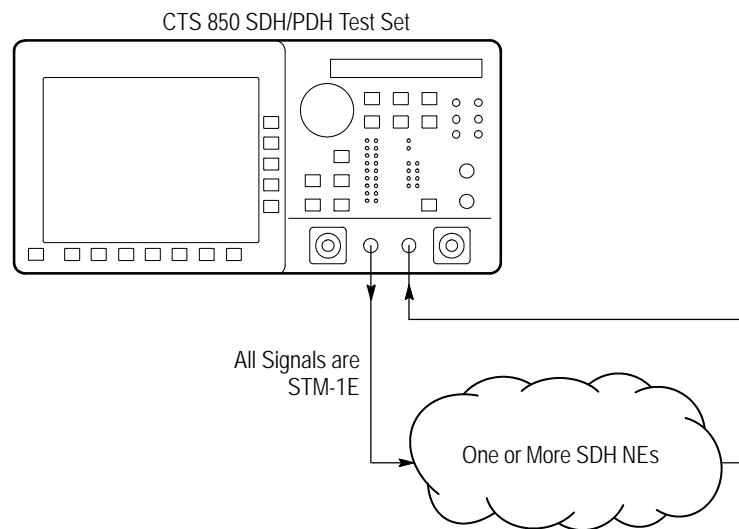

Figure 3 1: Setup to Check Network Continuity
1. Connect the CTS850 to the NE as shown in Figure 3 1.